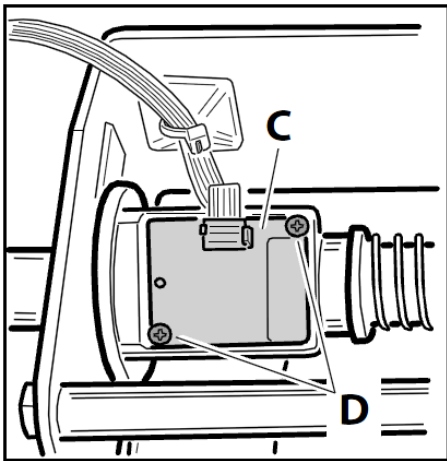
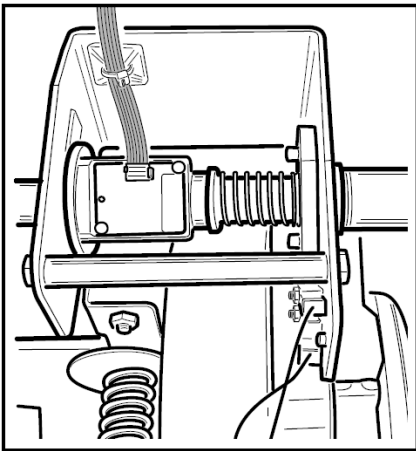

Fig.2b
Fig.2c
Check the following if the sensor (C, Fig. 2b) does not read:
- undo the two self-tapping screws (D, fig.2b) then remove the sensor from its mounting;
- that the sensor is installed correctly in its housing (see fig.2b, picoflex connector facing towards rear of machine);
should it be necessary to replace the flat cable of sensor (C, figure 2b), ensure that the flat cable is reconnected correctly on the board (see fig.2c). The flat cable must be fastened to the base leaving a sufficient length of free cable to allow the sensor to move without the cable itself twisting around the shaft assembly pulley.